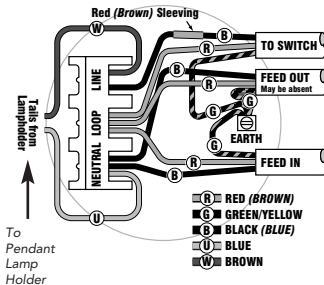

Figure 3a - Typical wiring circuit with looping requirement
8. Coloured sleeves are provided for use as follows: -The **Red or Brown** sleeve should be placed over the live or switched live cable for identification purposes where the cable used is black, as shown in Figures 3a & 3b.
9. Figure 3a & 3b show typical wiring diagrams for conventional lighting circuits. 3a having a looping requirement, 3b when using junction boxes for termination when looping is not required.
10. Ensure each cable is connected to the appropriate terminal, as shown in the typical diagrams - Figures 3a or 3b.
17. Make the connections from the lamp holder to the rose as shown in Figures 3a & 3b and tighten the terminal screws securely. Note; the colour codes of these cables will be brown and blue in all cases.
5. Make the connections to the lamp holder as shown in Figures 3a & 3b and tighten terminal screws securely.